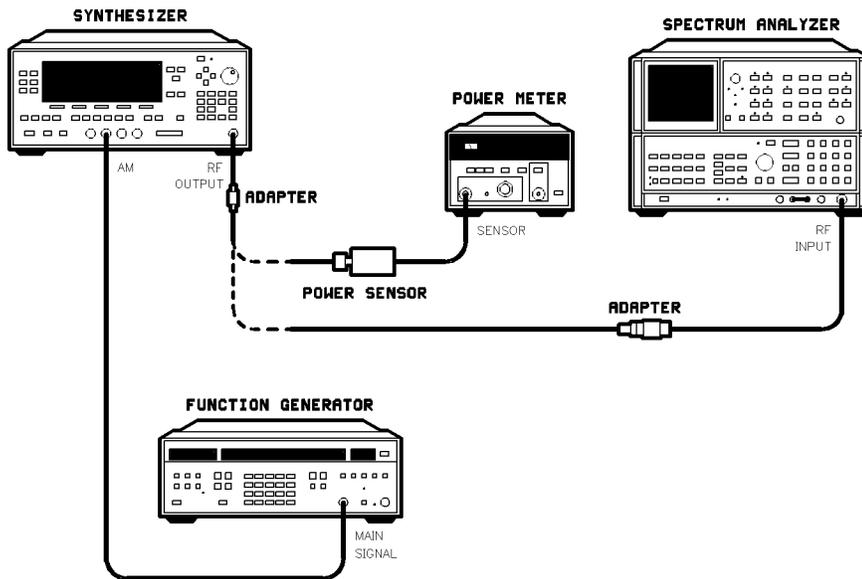

Figure 2-27. AM Dynamic Range Test Setup
1. Preset the instruments shown in Figure 2-27 and let them warm up for at least one hour.
- Connect the equipment as shown in Figure 2-27 with the power sensor connected to the synthesizer's RF OUTPUT.
13. Disconnect the power sensor from the synthesizer and connect the spectrum analyzer as shown in Figure 2-27.